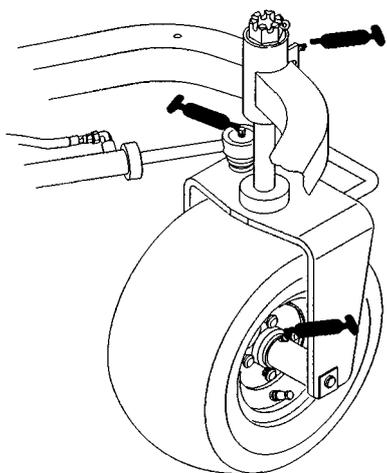
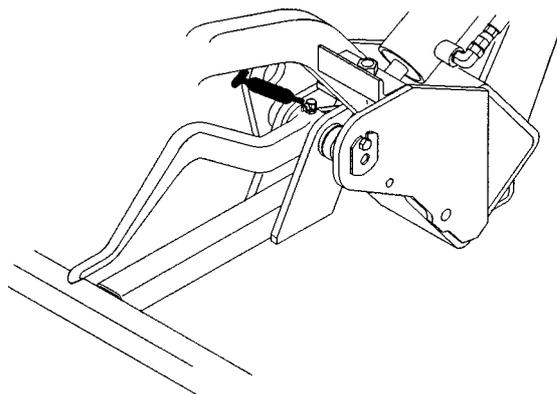
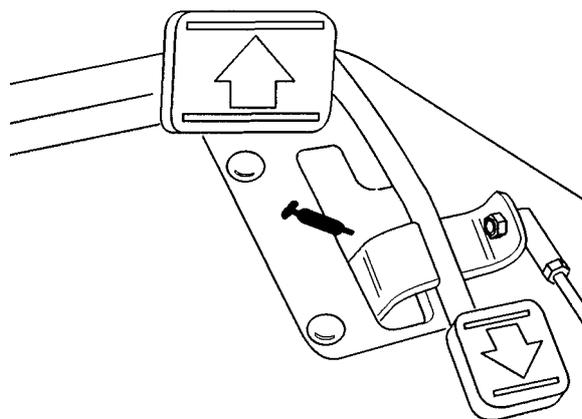

Figure 15
Figure 16
Figure 17
The traction unit bearings and bushings that must be lubricated are: Rear wheel hub (1), Castor bearing (1), Steering cylinder (2) (Fig. 15), Lift arms (3) (Fig. 16), Traction pedal pivot (1) (Fig. 17).